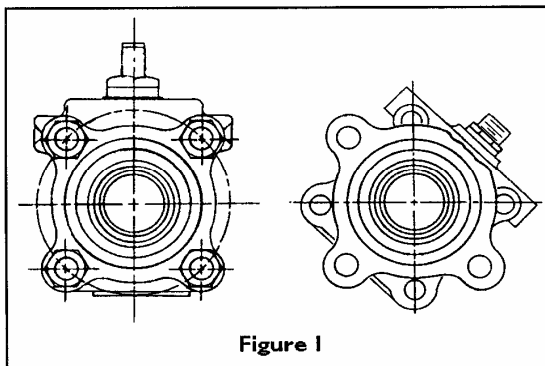
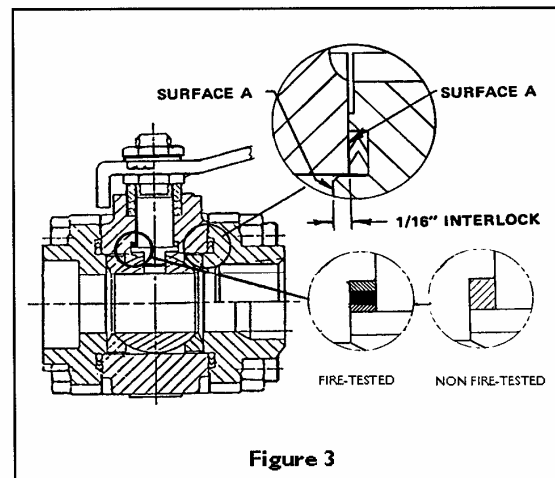

Figure 1
Figure 3
3. Remove the top stem nut (16), spring tab washer (9) and handle (15).
4. Loosen all four body bolts/tie rods (20). Remove three from the valve. Leave the remaining bolt in place with the nut backed off at least 1/4".
5. For positive alignment and ease of in-line assembly, each end cap is interlocked approximately 1/16" into the body as shown in Figure 3. To overcome this feature during in-line disassembly it is necessary to separate each cap at least 1/16" from the body. Sharply rap body and caps with a block of wood or plastic mallet to break loose body seal. Spread end caps and swing the body out of the line. If pipe does not allow simple spreading, remove the remaining body bolt and rotate center section per Figure 1. This will improve access to the end cap flange for ease of spreading. Swing the valve body (1) out from between the end caps (2). Be careful not to damage the sealing surfaces "A" (see Figure 3) at each end of the valve.
6. Turn the stem (4) so that the valve is fully closed. Remove body seals (6) and seats (5). Body seals may be tightly compressed in their grooves. Use extreme care when prying them out. Damage such as scratches to the bottom of the groove will cause leaks. If the seats are not easily removed, gently tap the ball (30) with a piece of wood or other soft material.
7. Remove the ball (3).
8. Remove the lower stem nut (16) and the compression ring (18).
9. Press the stem (4) from the top into the valve body (1) and remove it through the end of the body.
10. Carefully pry out and discard the old stem seals (7), the stem bearings (8), and the secondary seal (13), being careful not to damage the bearing surfaces.
1. With the valve swung to the out-of-line position, insert from the inside of the body a stem bearing (8), a secondary seal (13), then another stem bearing (8) into the stem bore. For non Fire-Tested valves use one stem bearing (8). See Figure 3 and parts list.
7. Place a body seal (6) into the machined sealing groove of the end cap (2) (see Figure 3). Be certain the groove and seal are clean.
12. Bolt the valve together with lubricated body bolts (20) and nuts (19). Tighten these bolts evenly and alternately. (See Table 1 for the torques and lubricant.)
13. Attach the handle (15), the spring tab washer (9) and secure them with the stem nut (16). (See Table 2 for torques.)